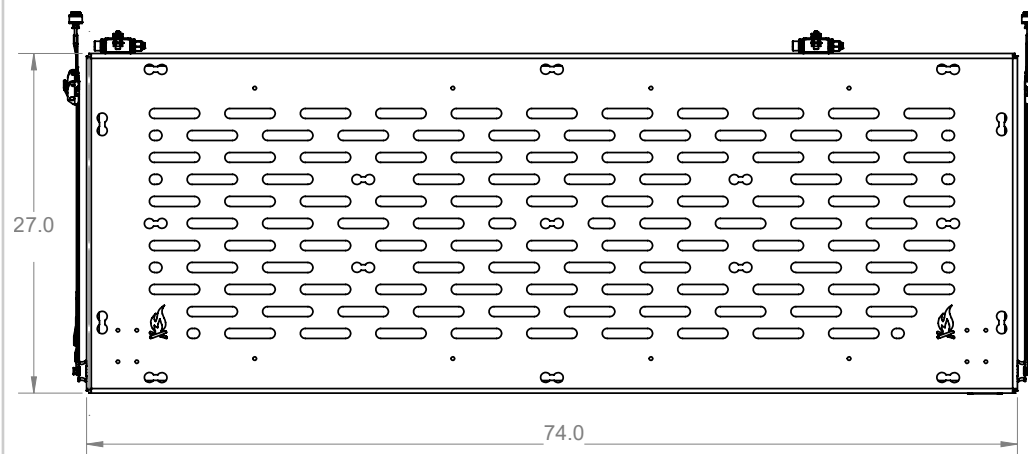

FIG 1
1.1 Dimensions of Solo Bed: The **Hanging Solo Bed** is designed for installation in vans equipped with **L-Track** and **FVC Bed Brackets**. Refer to **FIG 1** and **2** for relevant dimensions to assist with the layout and installation of your new **Solo Bed**.